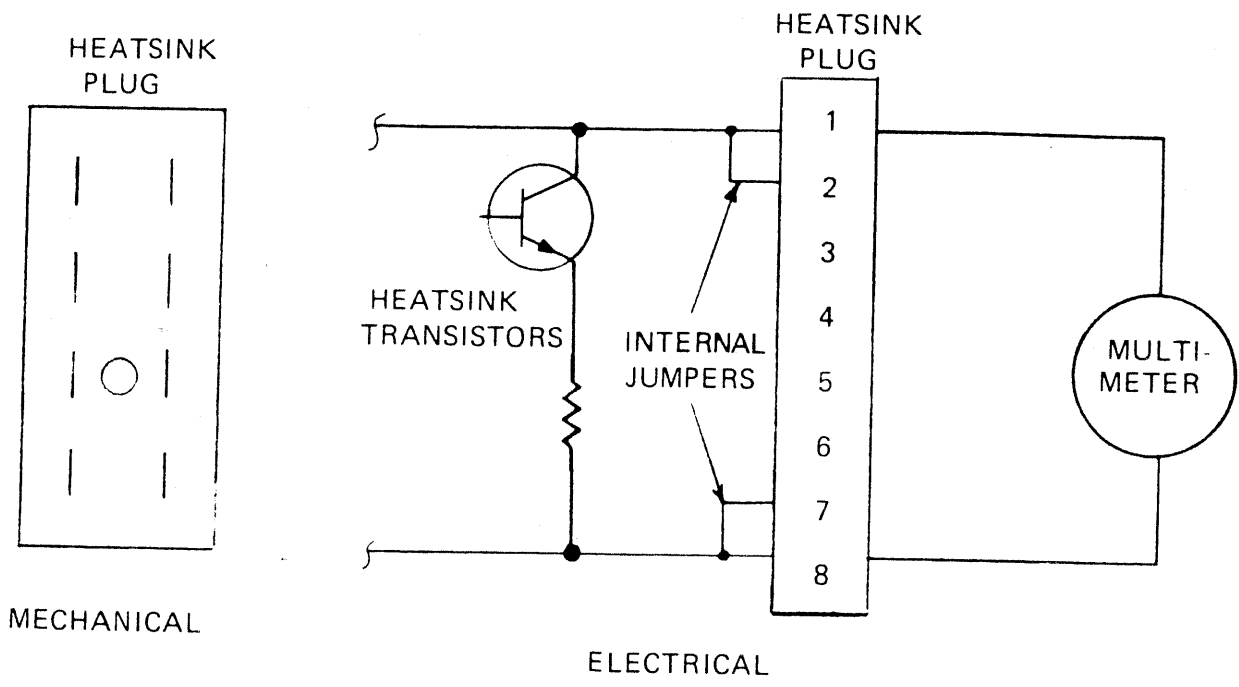

Figure 5-4. Heatsink Plug Diagram
3. Check NPN transistors in heatsink assemblies No. 1 and 2 (six heatsink assemblies total) for shorted transistors. At each heatsink plug (see Figure 5-4), connect negative lead on pin 1 and positive lead on pin 7 and verify resistance 100 - 300 ohms. If the multimeter reads a direct short, the transistor(s) in the heatsink is shorted and must be replaced.